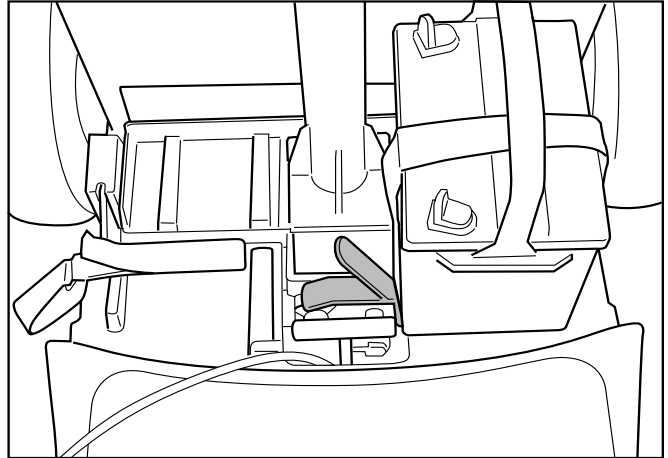

Fig. 29
4. When the left battery is properly placed, and secured with hook and loop strap, it acts as a secondary securing mechanism for the latch. (Fig. 29)